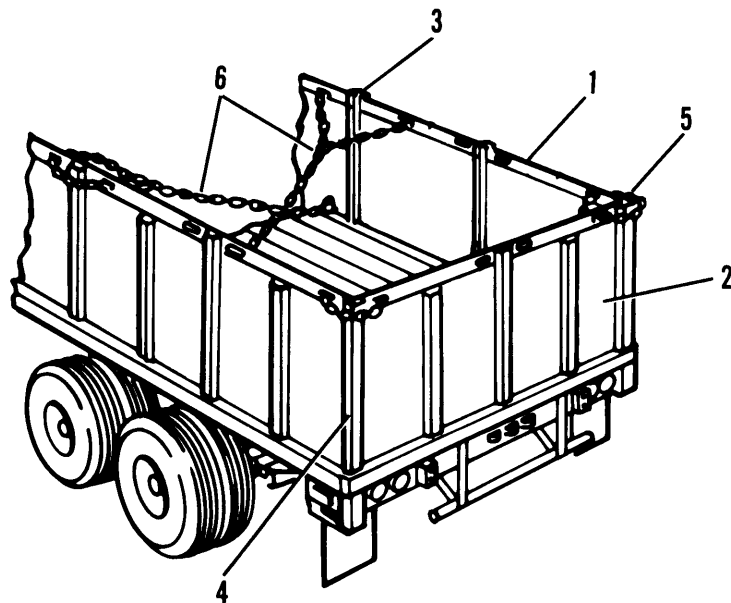

Figure 2-19. Loading Bulk Cargo
- (1) Install all fourteen side racks (1, fig. 2-19) and two rear racks (2).
- (2) Install thirteen side stakes (3) between the fourteen side racks and two rear racks.
- (3) Install rear corner stakes (4) and secure corners with corner chains (5).